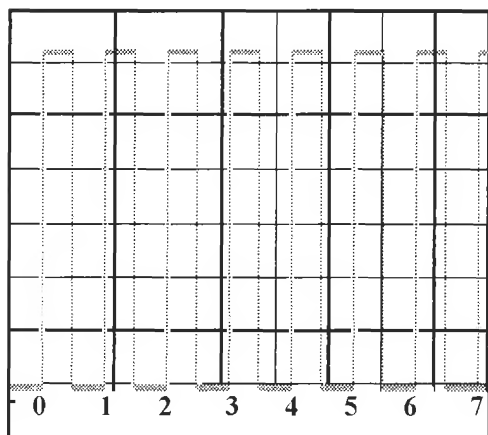

Figure L36-6
9. The output from the 4046 VCO on the oscilloscope should have been similar to the diagram shown in Figure L36-6.